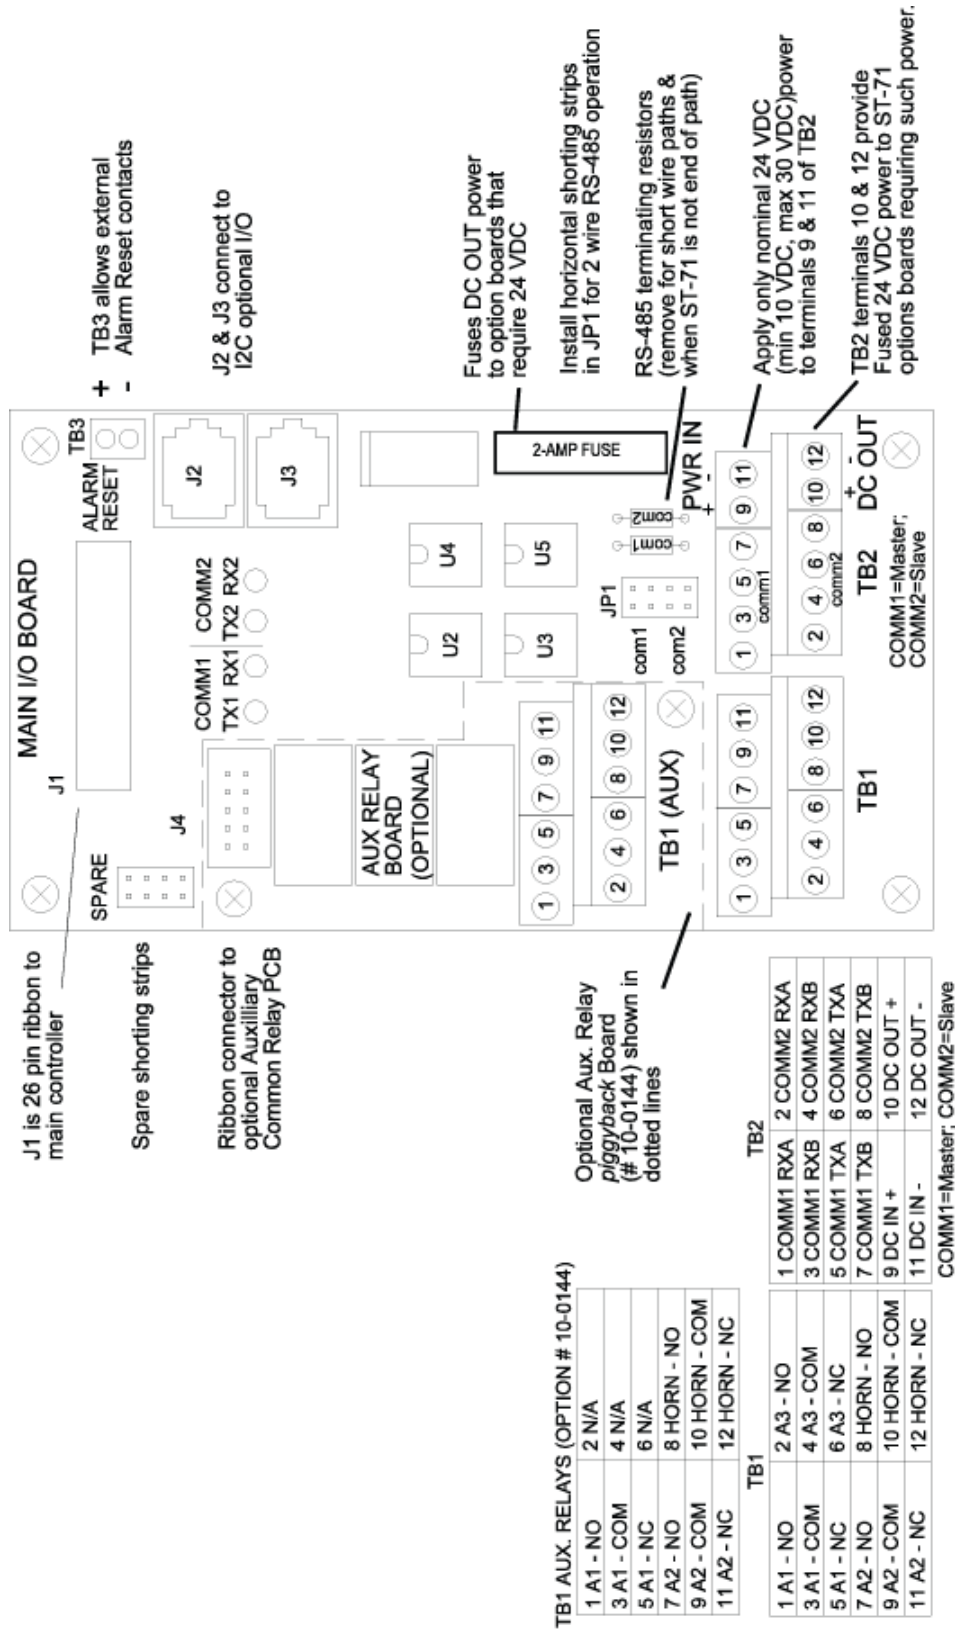
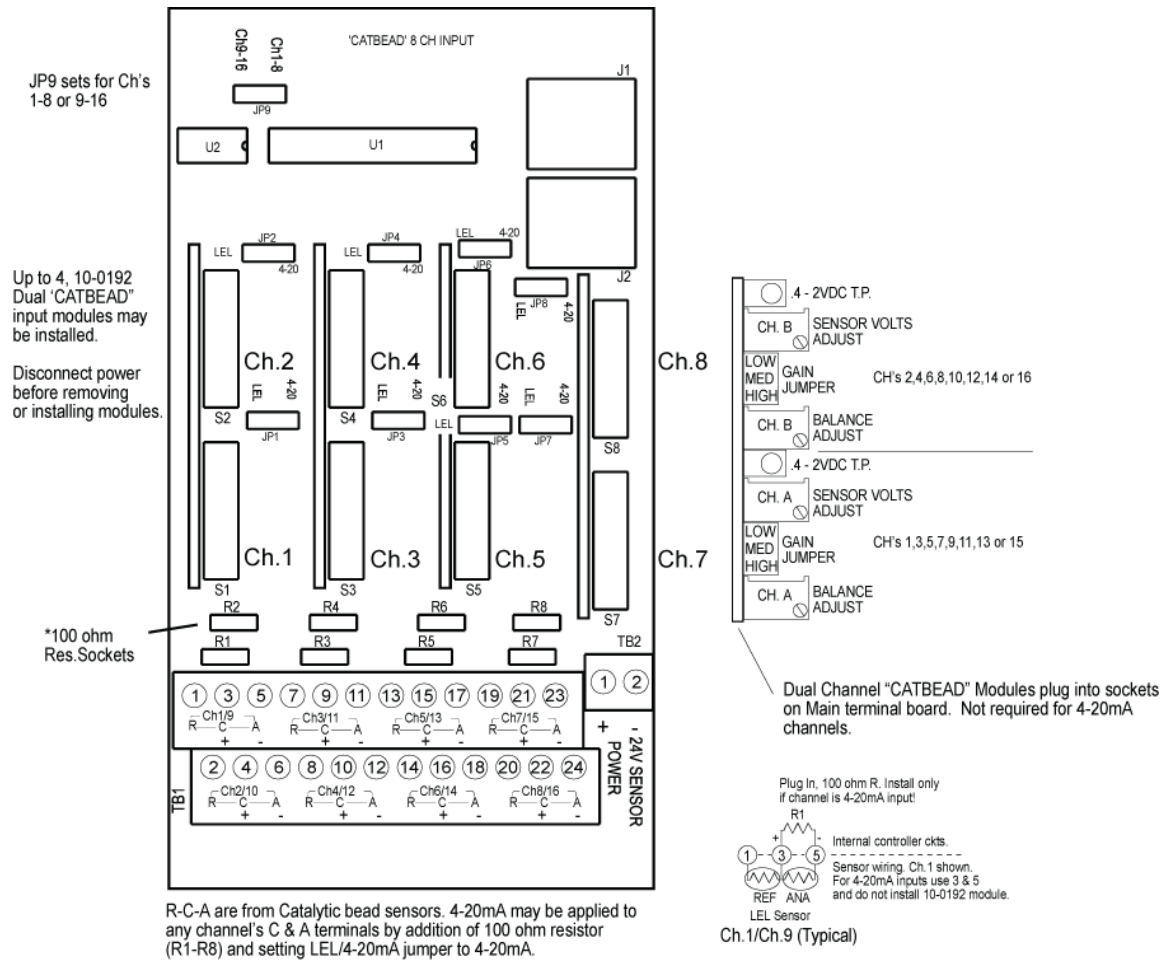
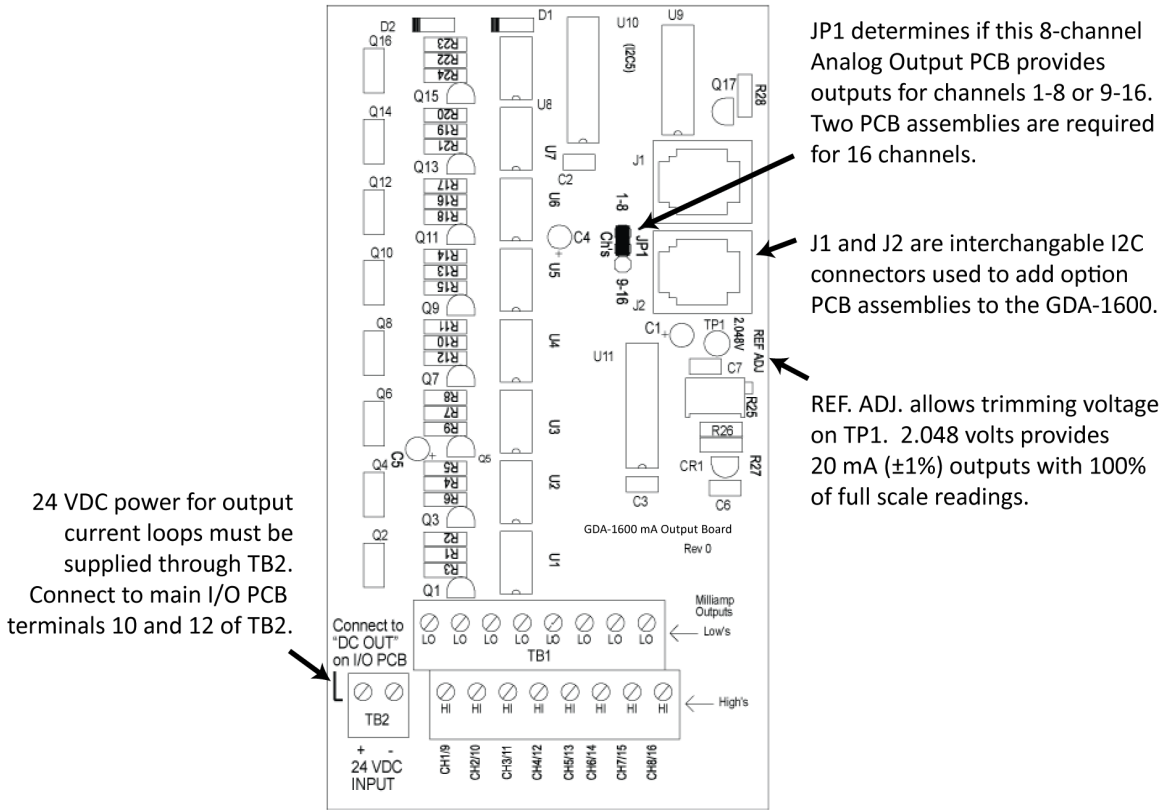

Figure 4.2 – Main PCB
Figure 4.5 – Catalytic Bead Sensor Layout
Figure 4.7 – Analog Output Board
An optional Auxiliary Relays *piggyback* PCB (part # 5700-0003) may be added to the I/O PCB via ribbon cable J4. These add another form C contact set to the common A1, A2 and HORN alarms. Auxiliary Relay contacts are available at the TB1 (AUX) terminals shown in Figure 4.2.
1. Apply power to the system prior to connecting sensors. Note this PCB requires 24VDC power be connected to its TB2 terminals 1 & 2 as shown in Figure 4.5. Suitable fused power is available from the Main I/O board's TB2 terminal 10 & 12 (see Figure 4.2). Measure the voltage between each channel's A and R terminals and set the *Voltage Adjust* potentiometers for the correct sensor excitation voltage. This may range from 1.5 volts to 7.5 volts depending upon sensor specifications.
An optional 10 bit 4-20mA analog output board, shown in Figure 4.7, may be connected to the I²C bus. Each channel's output will transmit 4mA for 0% readings and 20mA for 100% readings. Loop drive capability depends upon the level of the GDA-1600's primary DC power supply. With at least 20 volts DC primary power they are capable of driving 20mA through a 750 Ohm load. Outputs are self powered and DC power should not be provided by the receiving device.
NOTE: *This PCB requires nominal 24VDC power be connected to TB2 terminals 1 & 2 as shown in Figure 4.7. Suitable power is available from the GDA-1600 Main I/O board's TB2 terminal 10 & 12 (see Figure 4.2).*